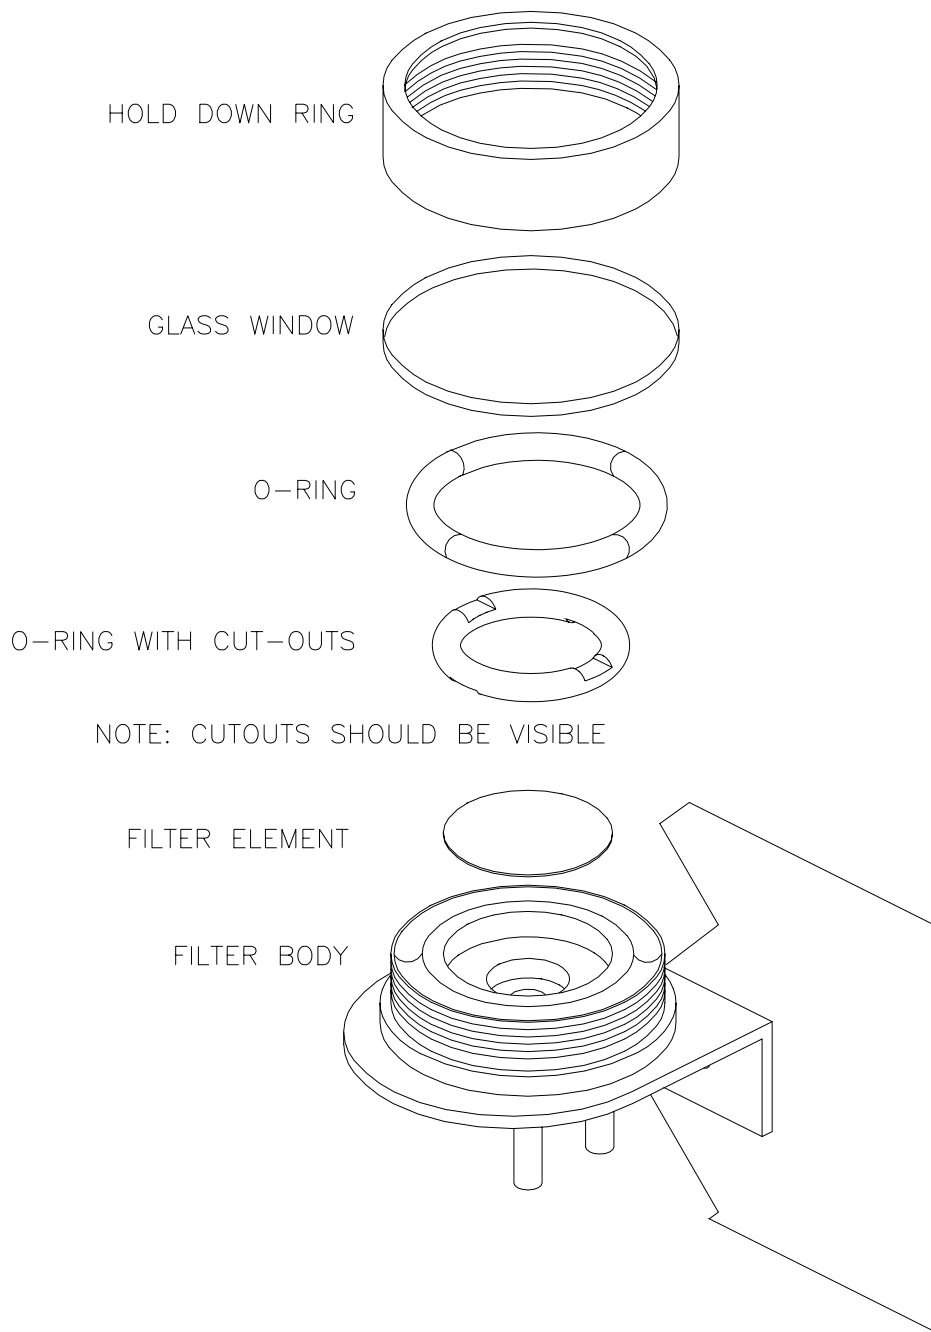

Figure 5.1 - Replacing the Particulate Filter
2. Locate the filter on the left side of the analyzer front panel. See Figure 5.1 for an exploded view of the filter assembly.